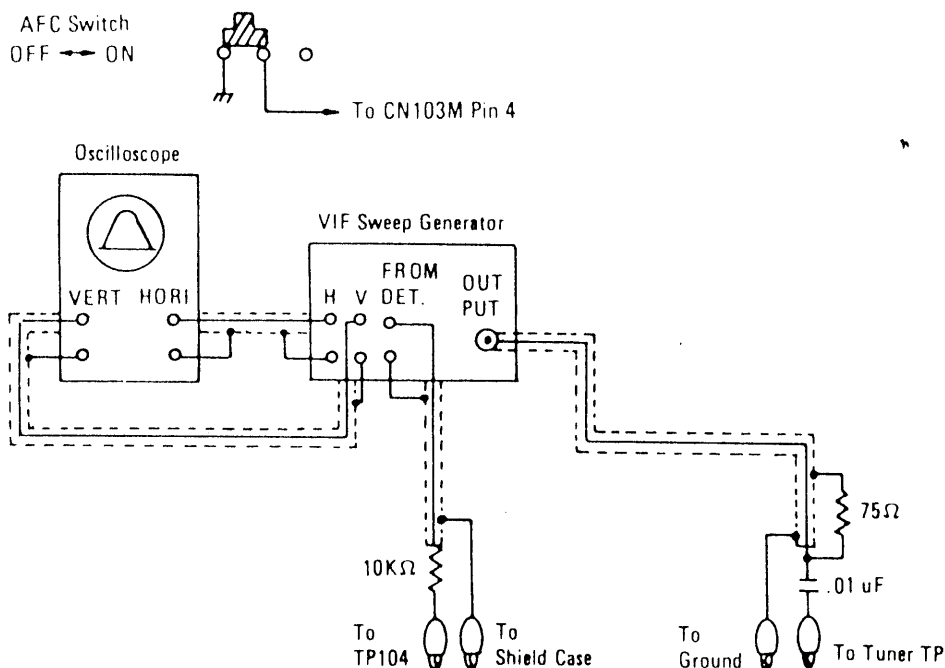

Fig. 2
A. PREPARATION STEP (See Fig. 2)